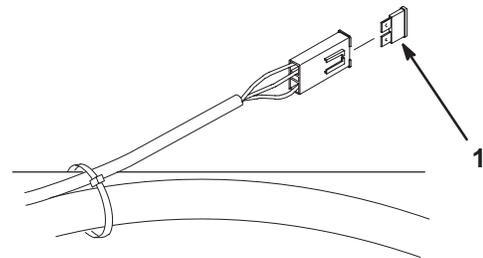

Figure 60
2. To replace fuse, pull out on the fuse to remove it (Fig. 60 and 61).